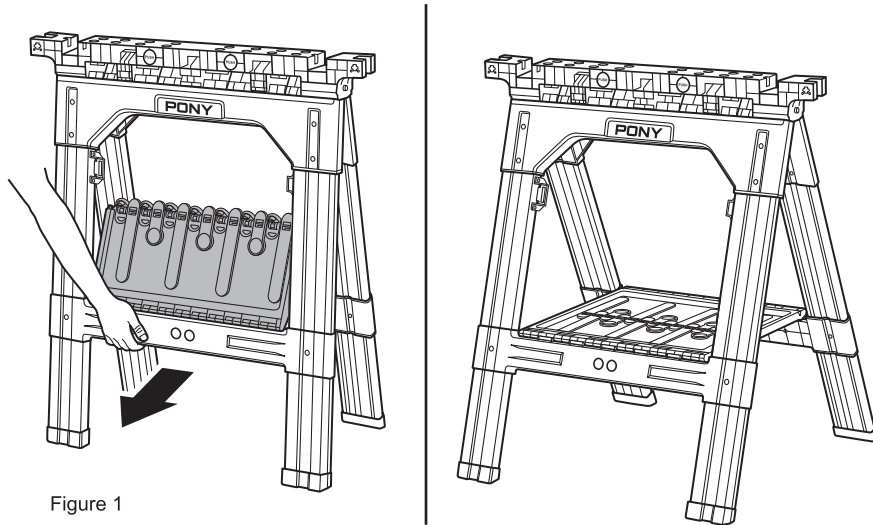

Figure 1
2. Open the legs fully until the tool tray is flat. The Sawhorse legs and tool tray should create an "A" shape. (Figure 1)